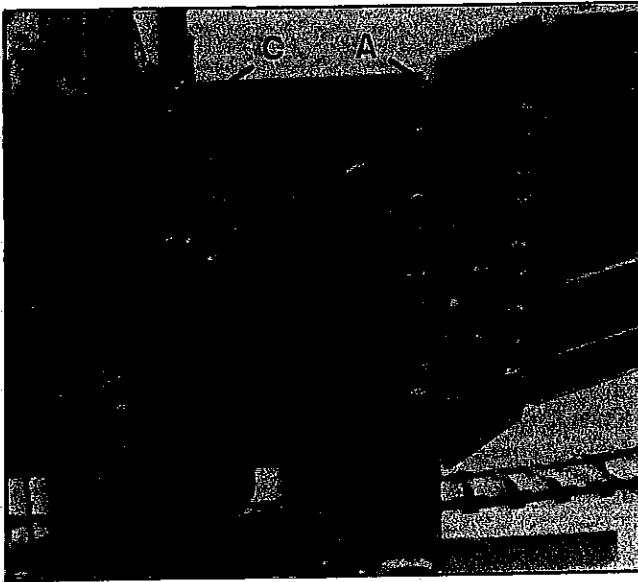
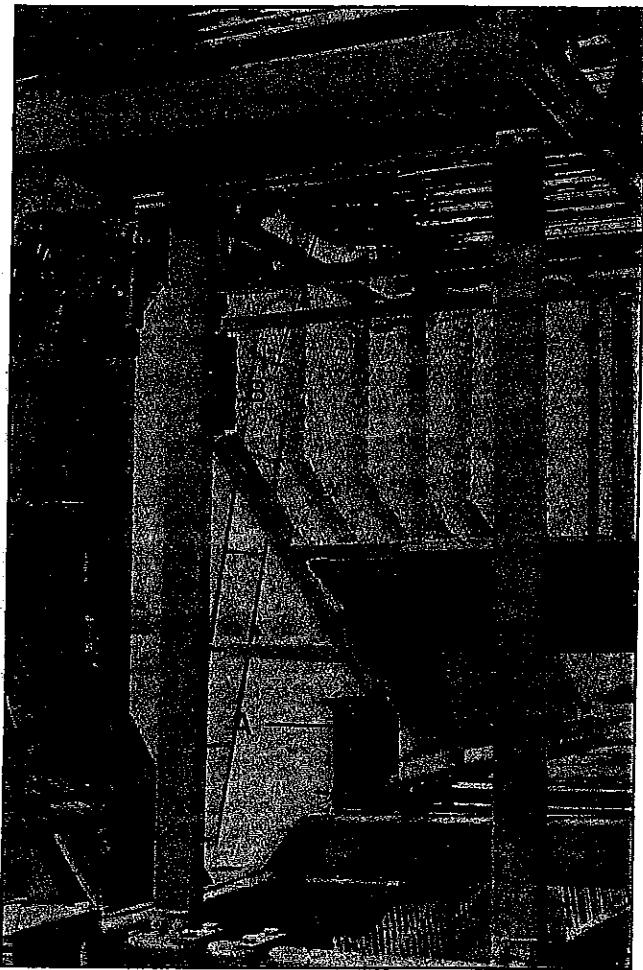

FIGURE 46 - TRUCK ELEVATOR ADJUSTMENT (LOW POSITION)
FIGURE 48 - TRACK SUPPORT TUBES
The elevator also has two possible angle positions to adjust for the truck side height. To change angle of the truck elevator, rotate center bracket (A) 180° to change height. With narrow end of bracket pointing up - the elevator is in the high position; down - low position (see Figure 46).
The elevator has two (2) stops available to adjust the truck end location of the elevator. When using the bolt-on stop (B) (see Figure 48, page 33), the filler plate (C) (see Figure 46) must be shifted to the left side of the retainer.
Use the 3/8" hardware from the tank mounting hardware bag to attach the two beet deflector plates (A) (see Figure 48, page 33) and one rubber flap to rear tank channel. Also, install the beet deflector plate to front tank channel if equipped with a reverse grab roll.
Attach two (2) 2" x 4" track support tubes to elevator track and frame (see Figure 48, page 33). Make sure to place the upper and lower end to the tank side of the 2" x 4" tube and the angle iron weldments respectively. Use the four (4) 1/2" x 4-3/4" hex bolts on top, four (4) 1/2" x 3-1/2" hex bolts on bottom, eight (8) 1/2" lock washers and eight (8) 1/2" nuts provided to secure tubes in place.